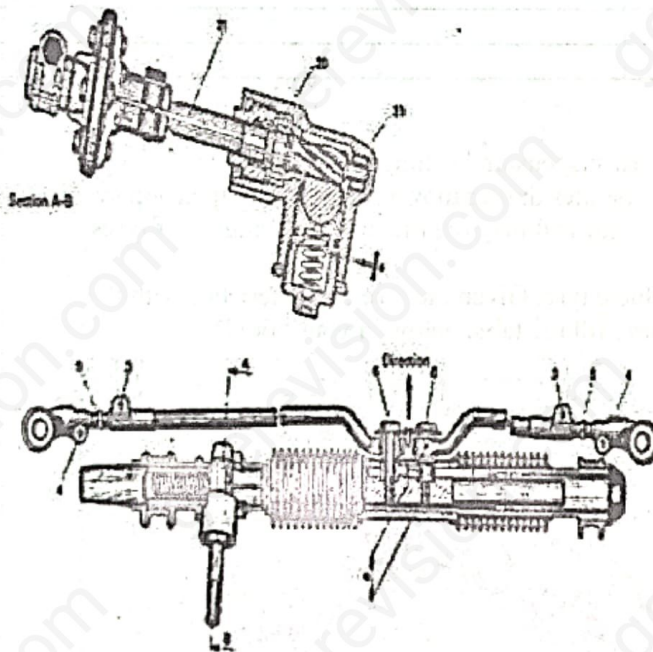

Figure 5.1
- c. The figures 5.1 and 5.2 show two types of steering configurations, one for a rigid or solid axle type of suspension system and the other for an independent front suspension system.
- Give the name of the steering box shown in figure 5.1. (1mark)
- What are the names of the parts labeled 3, 4, 5, 20, 21 and 23 in figure 5.1. (1.5mark)
- Indicate which component on figure 5.1 should be altered when
- What type of periodic maintenance will you carry out on the system in figure 5.1? (1marks)